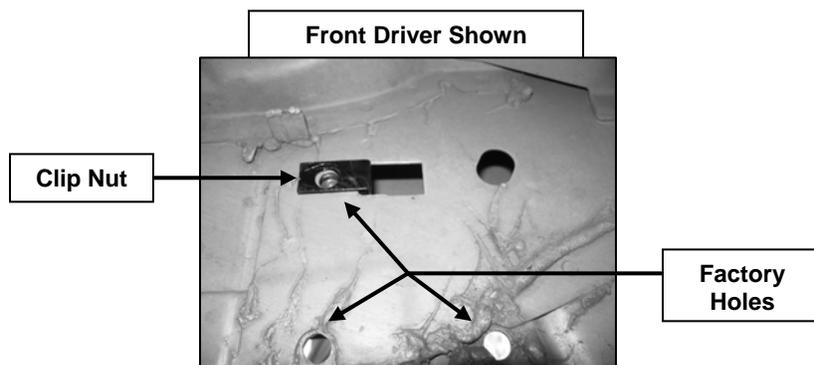

Figure 1
3. Install the 10mm Clip Nuts (*Figure 1*). **NOTE:** The rear mount will require (2) Clip Nuts and the front only (1).
4. Loosely attach the Driver Side Brackets to pinch weld using the included (2) 10-1.50mm x 40mm Hex Head Bolts, (4) 10mm Flat Washers, and (2) 10mm Lock Washers (2 & 3)).